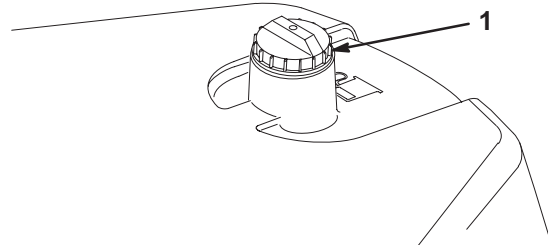

Figure 18
1. Clean the area around the fuel tank cap (Fig. 18).